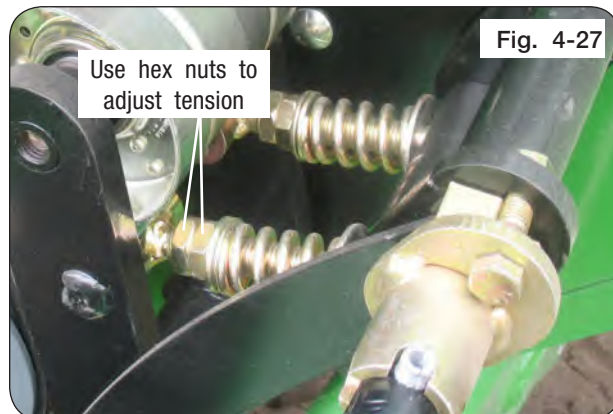

Fig. 4-27
5. Belt tension is adjusted with hex nuts below the spring. All belt tension **MUST** be released from linkage. Loosen outer hex nut and adjust inner nut to establish a $3\frac{1}{16}$ " pre-load dimension between the heavy washers. Tighten the outer hex nut against inner nut to lock position. (Fig. 4-27)